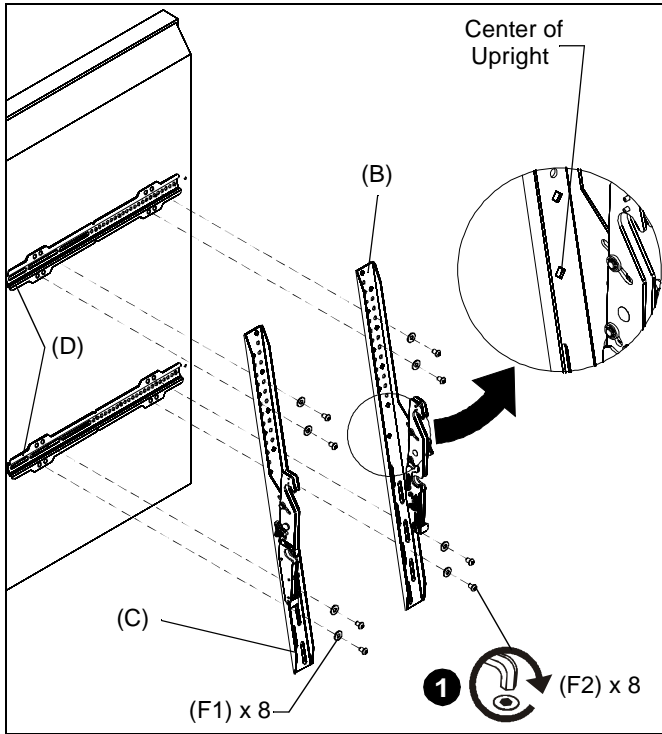

Figure 6
1. Vertically align the center of the uprights (B and C) with center of screen. (See Figure 6)
2. Attach uprights (B and C) to the display brackets (D) on the display back using eight 5/16" x 1/2" button head cap screws (F2) and eight 5/16" flat washers (F1). (See Figure 6)